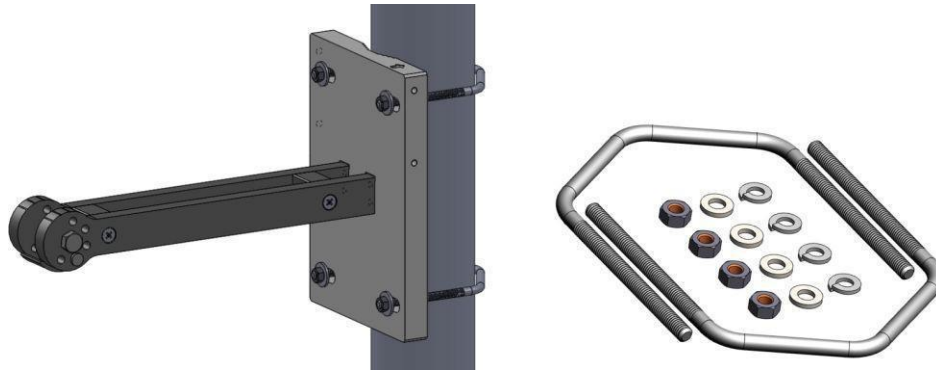

Figure 12: Pole Mounting Accessories
6. Supplied pole mounting accessories (shown in Figure 12) for pole mounting or appropriate screws or bolts (four sized M6) with any required anchors according to the wall construction for wall mounting.
The mounting bracket assembly can be pole or wall mounted. For pole mounting option, shown in Figure 12, use the supplied U-bolt accessory kit. Tighten the mounting screws to 2.5 Nm (22 in·lbs).